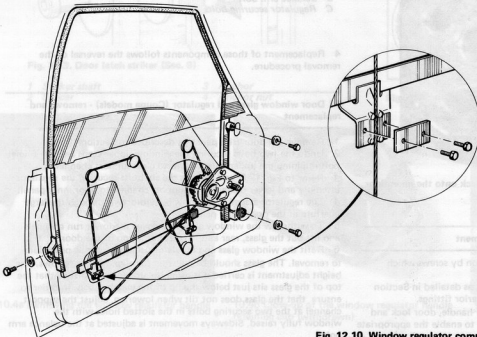

Fig. 12.10. Window regulator components (Front door, Saloon models). (Sec. 13)
- 5 Unscrew and remove the two lower bolts from the glass front channel guide and slacken the upper one (Fig. 12.10).